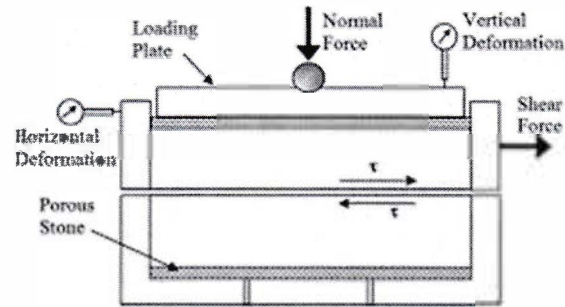
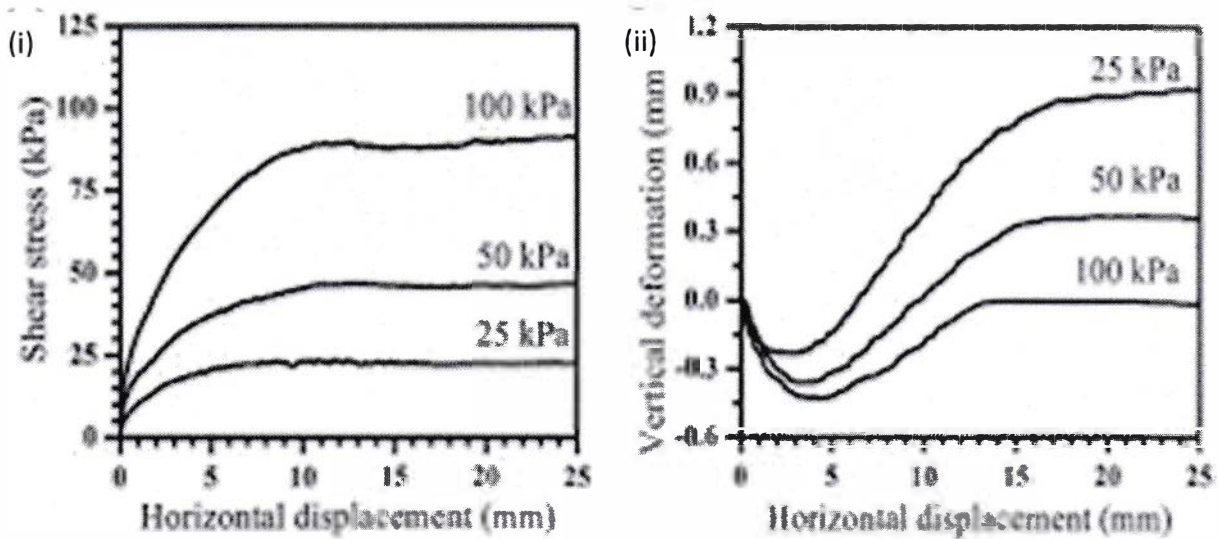

Fig. 2a
Fig. 2b
2. Two types of sand were collected and tested using the machine shown in Fig. 2a. The graphical presentations of test results are given in Fig. 2b. It is to note that Fig.2b(i) and Fig.2b(ii) are obtained from the tests on two different sands. 1
- (i) Identify the test (Test Name) mentioned above and demonstrated in Fig. 2a. 1
- (ii) Identify the relative density of sand (Dense/Medium Dense/Loose) based on the results presented in terms of shear stress vs horizontal displacement, Fig.2b(i). Sketch typical shape of vertical displacement vs horizontal displacement diagram for this sand specimen. 2
- (iii) Identify the relative density of sand (Dense/Medium Dense/Loose) based on the results presented in terms of vertical displacement vs horizontal displacement, Fig.2b(ii). Sketch typical shape of shear stress vs horizontal displacement diagram for this sand specimen. 2